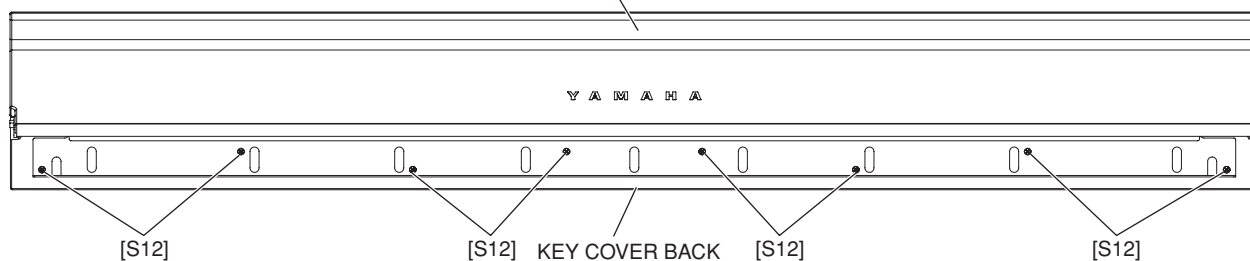

Fig. 1
(2) Attachment possible?
(3) Attach after adjusting damper width
- 3-1 Remove the eight (8) screws marked [S12] and remove the key cover back. (Fig. 1)
- 3-2 Loosen the four (4) screws marked [S0C] holding the damper angle to the key cover and adjust the width of the dampers. (Fig. 1)
- 3-3 Install the key cover back to the key cover and install to the main body. (Fig. 1)